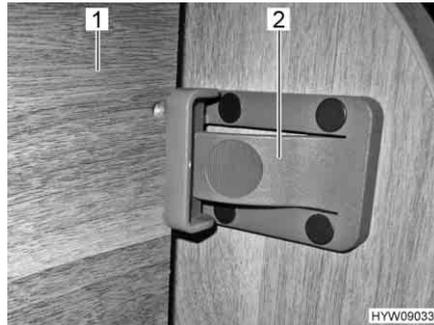

Fig. 29 Securing, front
- Lift bed (Fig. 29,1).
- Use the latch (Fig. 29,2) to secure the bed on the furniture wall.
- Press the latch (Fig. 29,2).